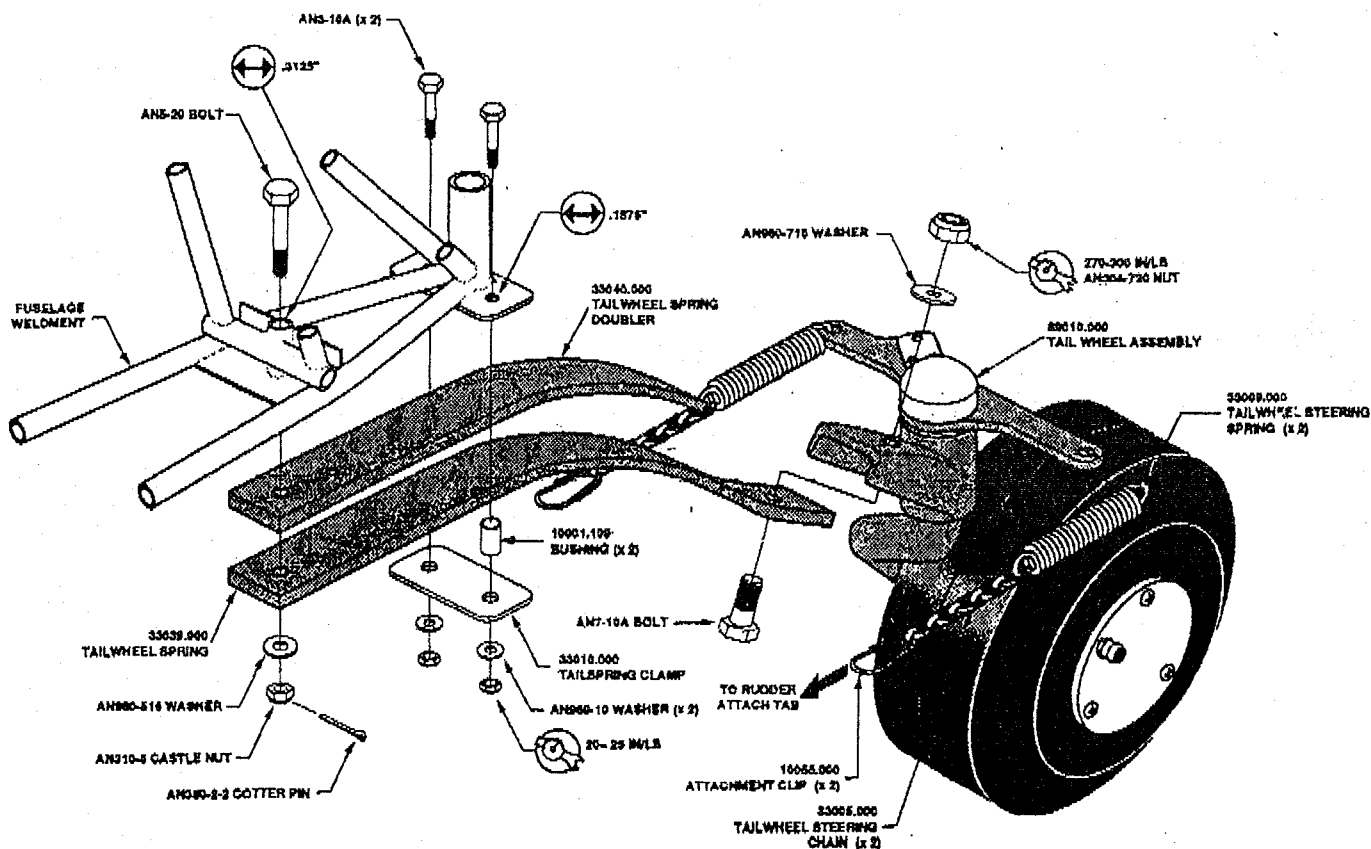

Figure 6
15. Refer to Figure 6. Ream the tailspring mount bushing at the aft end of the fuselage to 0.3125". Ream the holes in the tailspring clamp plate on the fuselage to 0.1875". Bolt the front portion of both tailwheel springs to the tailspring mount bushing in the fuselage. Bolt the tailspring clamp in place underneath the tailsprings, and then attach the tailwheel to the tailspring. Do not bend over any cotter pins at this time since these parts will be removed for fabric covering.
16. If you have left the rudder attached to the fuselage, you can hook up the tailwheel steering chains from the rudder to the tailwheel, as shown in Figure 6. If not, this can just as easily be done after the fabric covering. The tailwheel steering chain should be taut, but not enough so as to put tension on the spring. The spring ends should be collapsed with pliers or vice grips in order to prevent the chain from slipping off should any slack be introduced into this system.